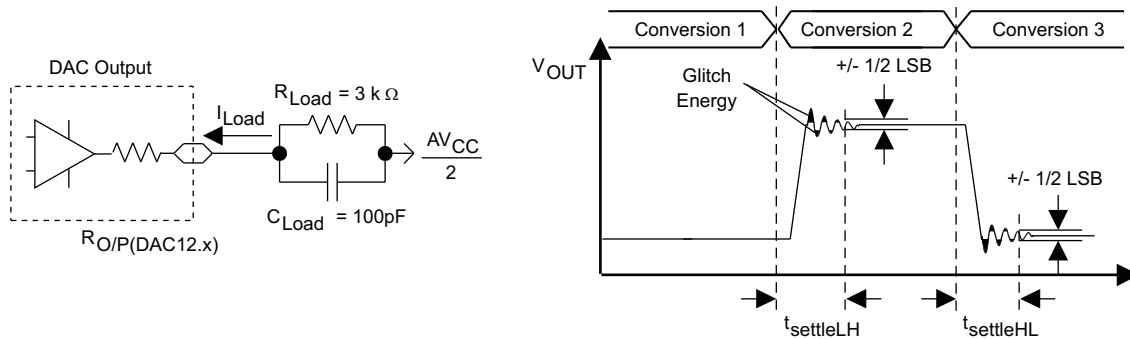
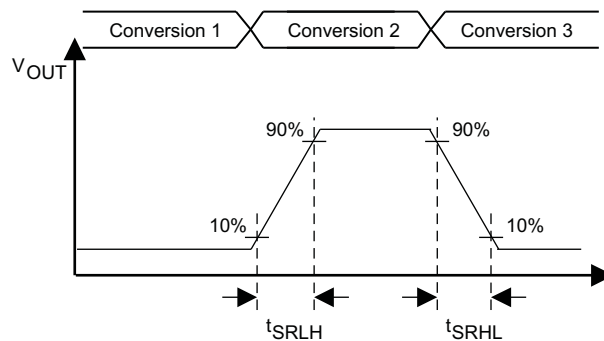

Figure 5-24. Settling Time and Glitch Energy Testing
Figure 5-25. Slew Rate Testing
$V_{ref} = V_{CC}$ , DAC12IR = 1, over recommended ranges of supply voltage and operating free-air temperature (unless otherwise noted) (see Figure 5-24 and Figure 5-25)
- (1)  $R_{Load}$  and  $C_{Load}$  connected to  $AV_{SS}$  (not  $AV_{CC}/2$ ) in Figure 5-24.
- (2) Slew rate applies to output voltage steps  $\geq 200$  mV.